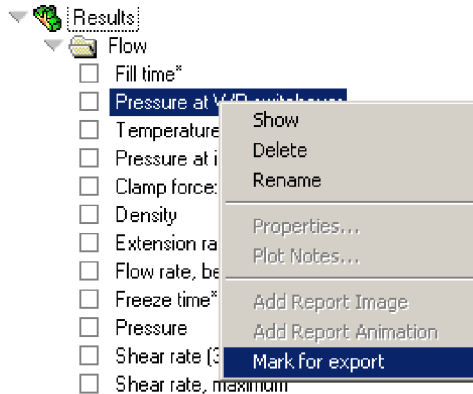

Figure 552: Marking Results for export
2. Select **Mark for export**, as shown in Figure 552.